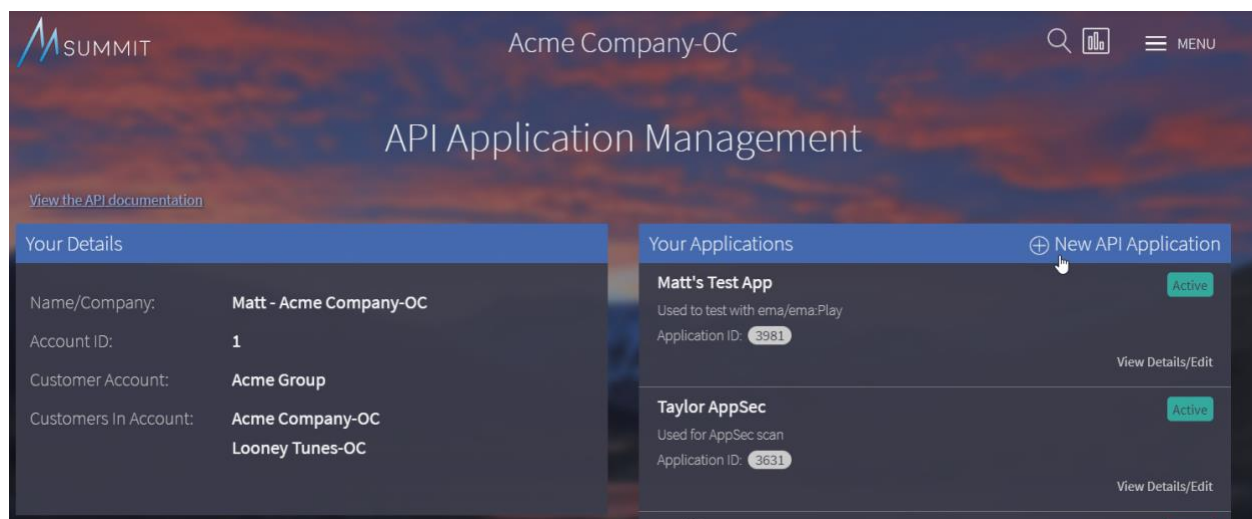

Figure 30
2. Click on the “New API Application” button as shown in *Figure 30*.